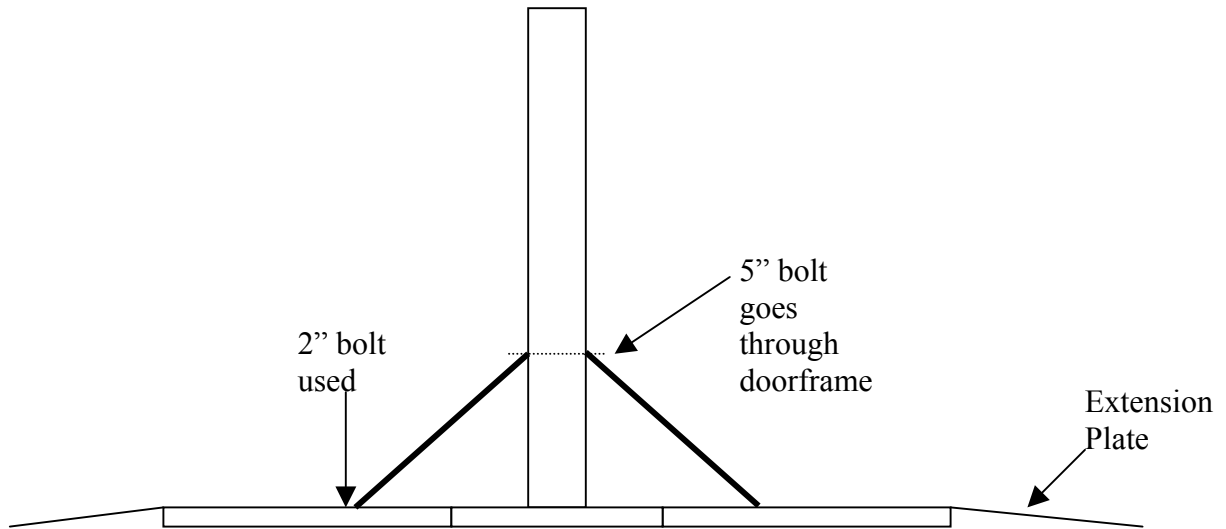

Figure 3.
4. Attach aluminum bars to doorframes using 5" and 2" bolts as show in figure 3. Note: Holes for bolts are pre-drilled in the frames and platforms and will line up with the holes on the brace bars.